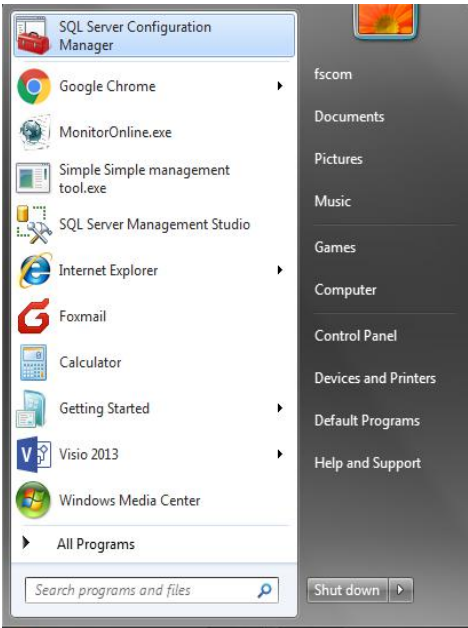

Fig.1.14 SQL Server Configuration Manager
- (1) Click the “start” to open control panel (see Fig.1.14).